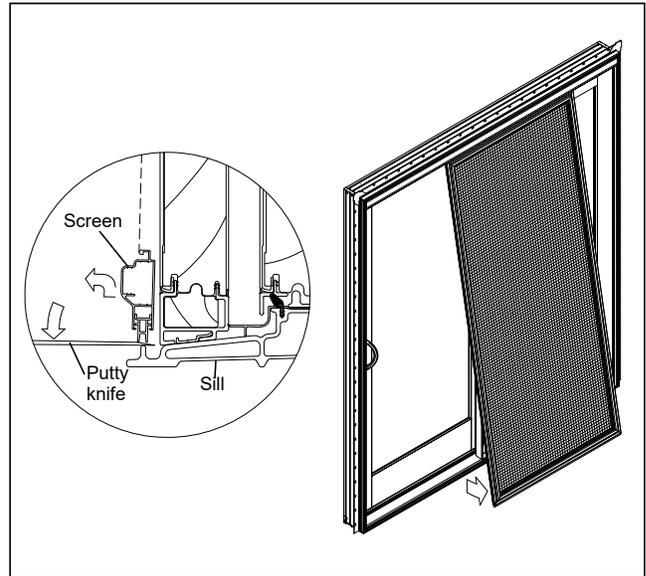

Figure 6
1. To remove the screen panel, start at the bottom corner and pry the screen panel guide up with a putty knife. Pull the guide off the screen sill track and work your way to the other end. See figure 6.